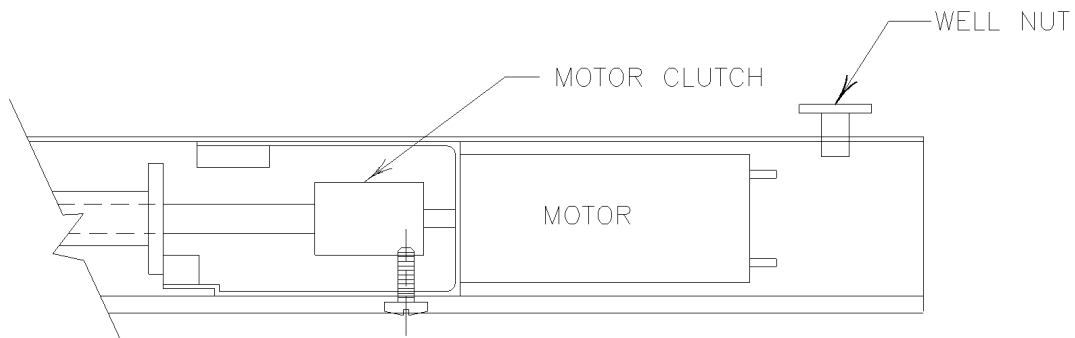

FIGURE 12/ GRAPHIC 25-23-02-991-012
- D. Ensure motor clutch is locked with adjustment screw. Reposition well nut and adjustment screw. . (See FIGURE 12/ GRAPHIC 25-23-02-991-012)